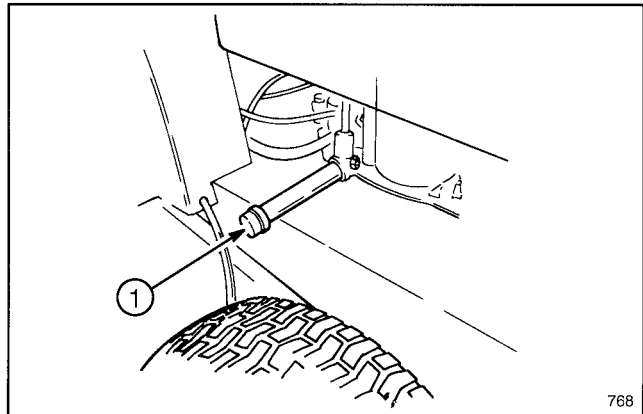

Figure 16
- B. Turn engine off and place drain pan below drain plug (Fig. 16). Remove drain cap. Allow all oil to flow into drain pan. Reinstall drain cap after oil stops flowing.